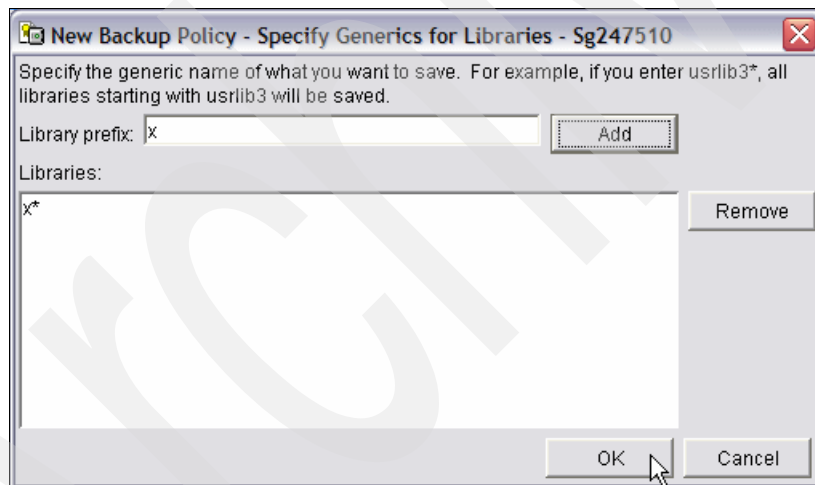

Figure 6-53 New Backup Policy - Specify Generics for Libraries (filled in)
11. The window in Figure 6-53 shows X\* entered in the Libraries list area.